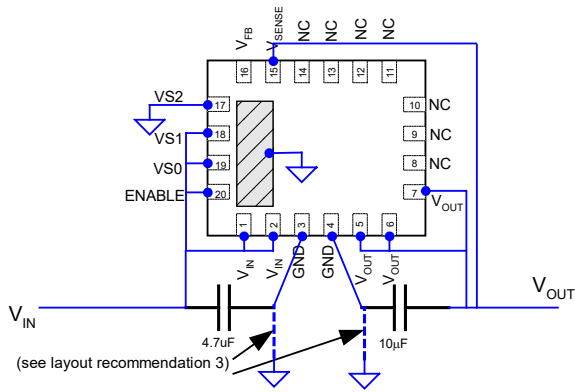
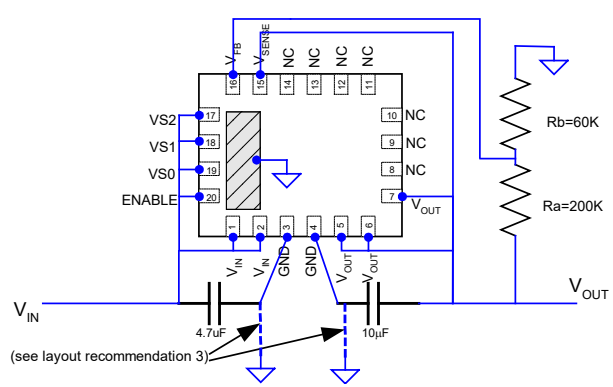

Figure 7. Example application,  $V_{out}=1.5V$ .
Figure 8. Example Application, external divider,  $V_{out} = 2.6V$ .
**Recommendation 3:** Multiple small vias (0.25mm after copper plating) should be used to connect ground terminals of the Input capacitor and the output capacitor to the system ground plane. This provides a low inductance path for the high-frequency AC currents; thereby reducing ripple and suppressing EMI (see Fig. 7, Fig. 8, and Fig. 9).
Figure 7 shows an example schematic using an external voltage divider.  $VS0=VS1=VS2=“1”$ . The resistor values are chosen to give an output voltage of 2.6V.